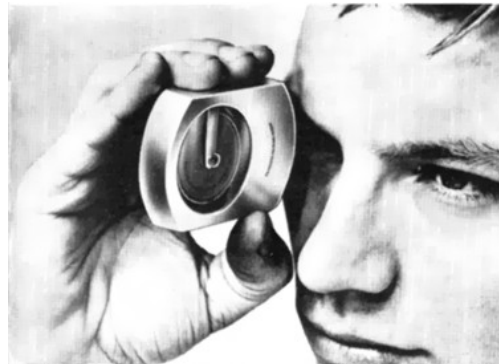

Figure 13 Illustration of the correct manner of holding the clinometer
1. Take readings with the right eye as shown in Figure 13.